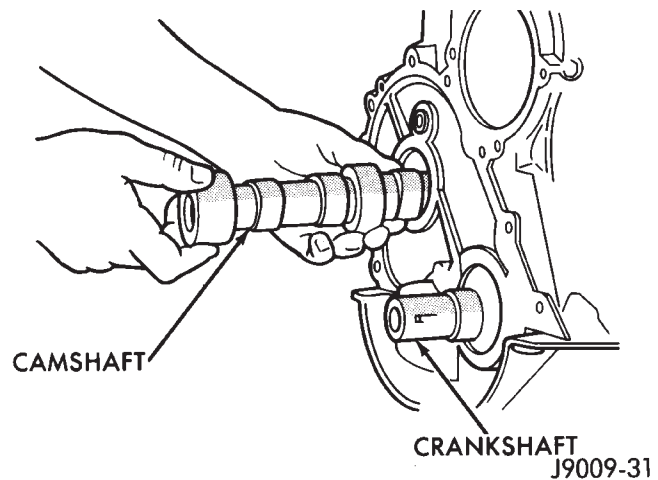

Fig. 10 Camshaft
(1) Lubricate the camshaft with Mopar Engine Oil Supplement, or equivalent.
(2) Carefully install the camshaft to prevent damage to the camshaft bearings (Fig. 10).
(5) Scribe a mark on the distributor housing near the clamp and continue the scribe mark on the cylinder block in line with the distributor mark.
(6) For ease of installation, note the position of the rotor and distributor housing in relation to adjacent engine components.
(7) Remove the distributor and ignition wires.
(8) Remove the engine cylinder head cover.
(9) Remove the rocker arms, bridges and pivots.
(10) Remove the push rods.
(11) Remove the hydraulic valve tappets from the engine cylinder head.
(12) Remove the vibration damper.
(13) Remove the timing case cover.
(14) Remove the timing chain and sprockets.
(15) Remove the camshaft (Fig. 10).